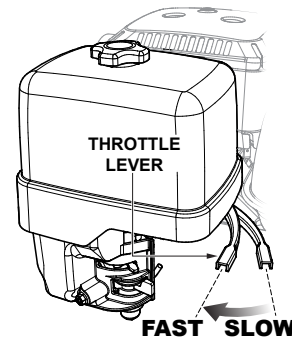

Figure 19. Throttle Lever
3. Move the throttle lever (Figure 19) away from the slow position, about 1/3 of the way toward the fast position.